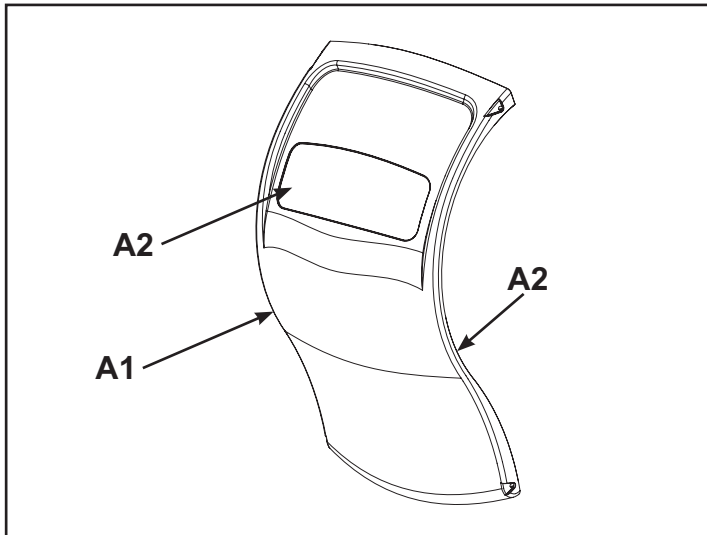

Figure 1
2. Verify kit contents. See Figure 1.
- A1. Front Access Cover, (1), 600A-335
- A2. Front Logo Decal, (1), DE-17317
- A3. Service Schedule and Error Decal, (1), DE-17322-X
- B. Nylon Grommet, HF540200 (4) - not shown
- C. Self-tapping Phillips Screw 8-16 X .75, HT552515 (4) - not shown